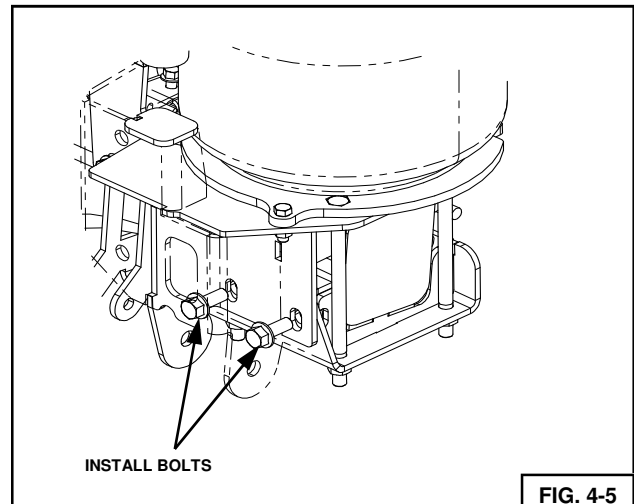

FIG. 4-5
- Bolt the Upper Axle Bracket to the Lower Axle Bracket from the front using (2) 1/2 x UNC FLANGE BOLTS. See Figure 4-5. (See Table 12-1 for appropriate Torque)
- Using 2 1/4" spacer plates, bolt the Air Spring Adapter Plate to the Upper Axle Bracket using the (2) 3/8 X 2 UNC HEX BOLTS and (2) 3/8 UNC TOP LOCK FLANGE NUTS. **PASSENGER SIDE ONLY:** Bolt the heat shield around the Air Spring with the 1/4 X 1 CARRIAGE HEAD BOLT, WASHER, and NUT. (See Table 12-1 for appropriate Torque)